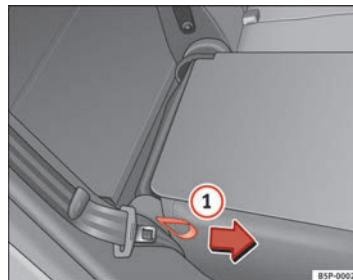

Fig. 99 Folding or opening the front seat backrests
- Pull the loop on the side of the seat ⇒ fig. 99 ① in the direction of the arrow and lift the seat backrest into position.